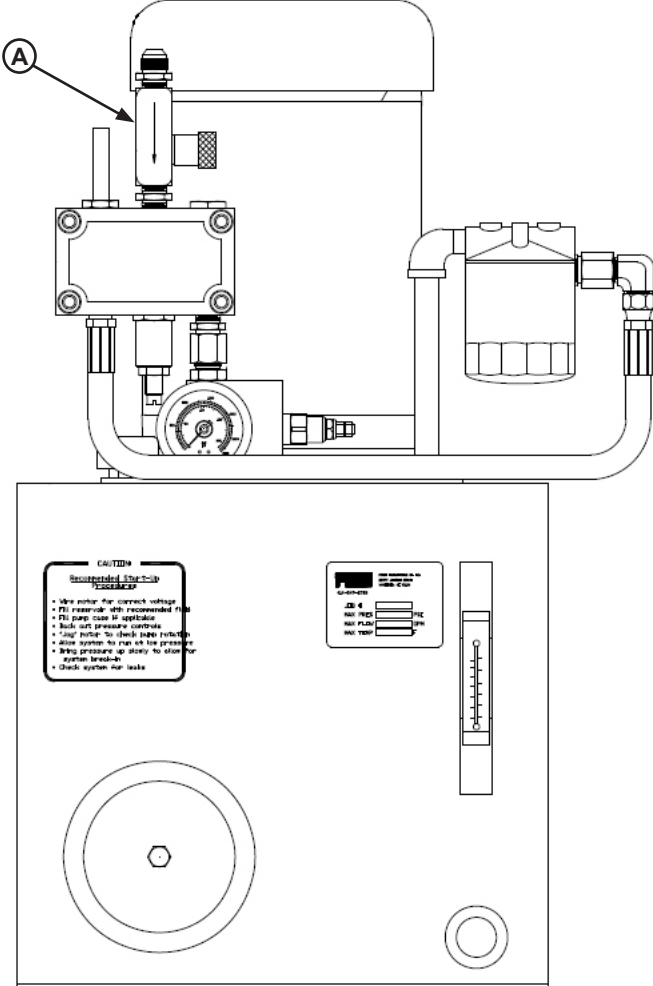

Figure 15
10. If the truck leveler appears to be operating too slowly, the flow control valve on the Powerpack can be adjusted. Turn the flow control valve (A) clockwise to slow the unit down and counter-clockwise to increase the speed. See Figure 15.